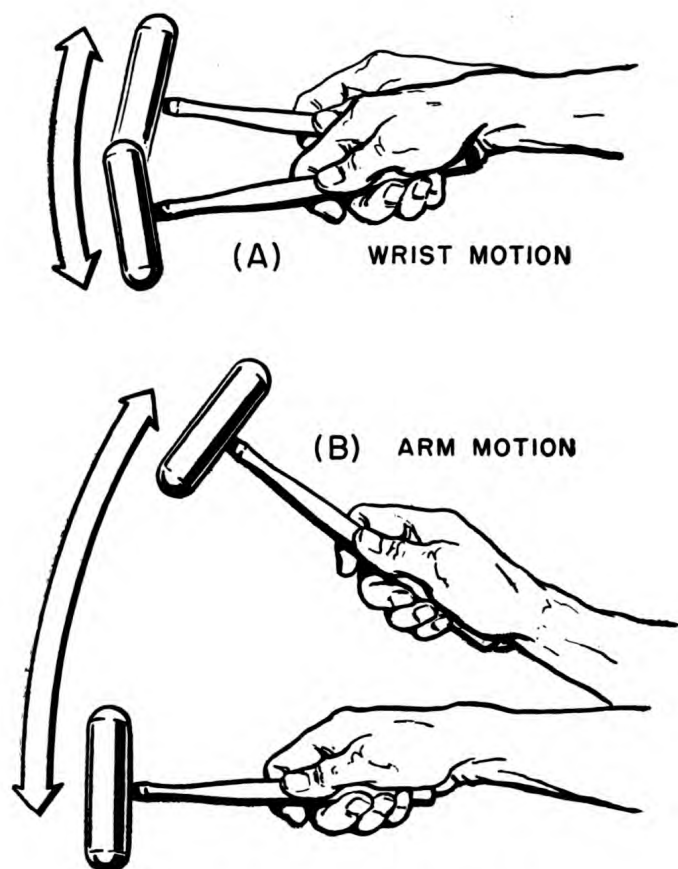

Figure 40.—Using a mallet.
cided upon. To accomplish this you must have good control over the striking power of the mallet. The swinging motion of your arm governs the force of the blow. If you want to strike a light blow, use only WRIST action as in (A) of figure 40. (B) shows the